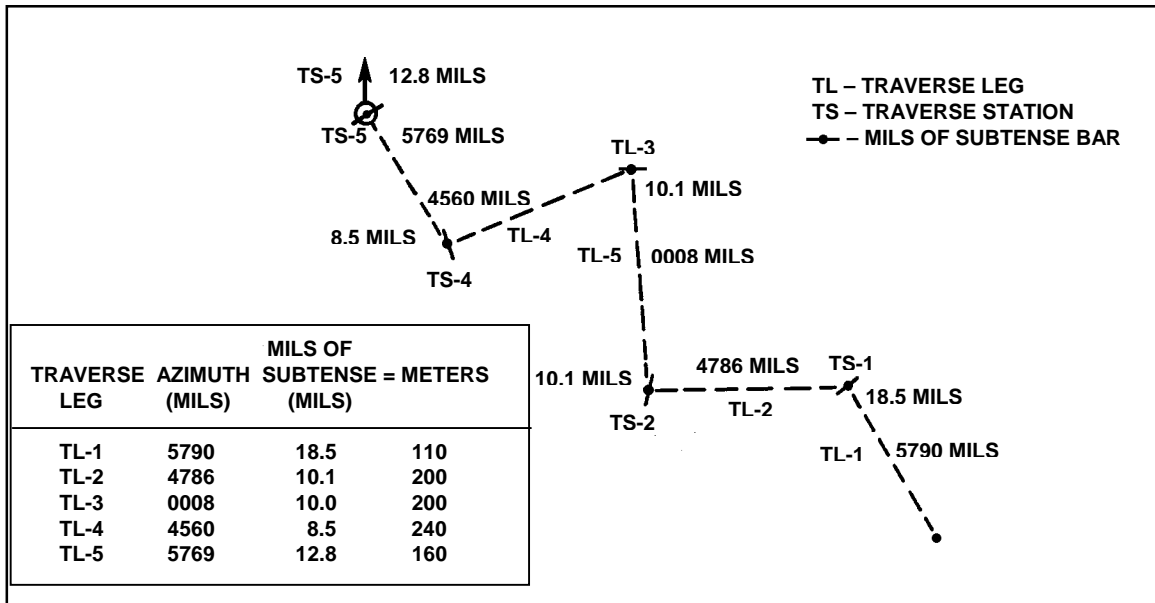

Figure C-9. Construction of a diagram.
h. This procedure is repeated until the desired mortar position is reached. Either the information obtained may be written down as an azimuth, a mil angle and a traverse station, or a diagram may be constructed (Figure C-9). (To avoid confusing others working with a hasty survey, any diagram should reflect the route of the various traverse legs and should be close to scale.)